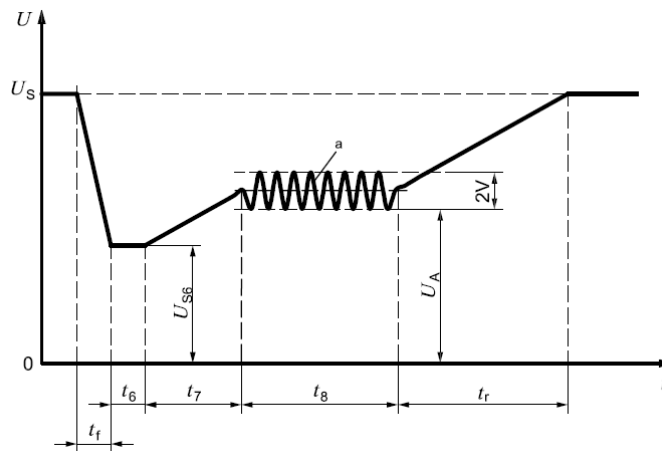

图 46. Voltage Profile to Test a Cranking Event
- To emulate a cranking event, voltage profile describe in 图 46 is used. U_S , U_{S6} , and U_A are applied directly to V_{BAT} .